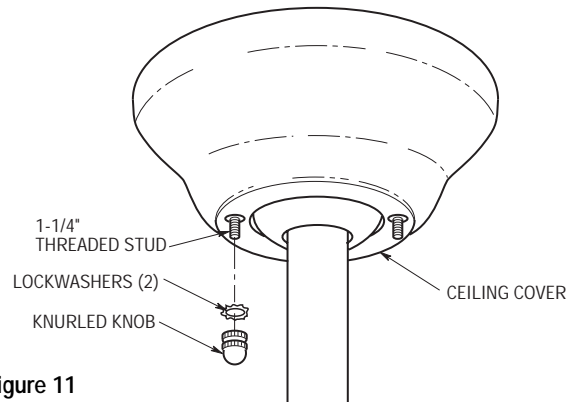

Figure 11
3. Lift the ceiling cover up to the threaded studs and turn until studs protrude through the holes in the ceiling cover (Figure 11).
4. Secure the ceiling cover in place by sliding lockwashers over the threaded studs and installing the two knurled knobs (supplied). (Figure 11.) Tighten the knurled knobs securely until the ceiling cover fits snugly against the ceiling and the hole in the ceiling cover is clear of the downrod. Your fan is now wired to be turned on and off from the fan switch.